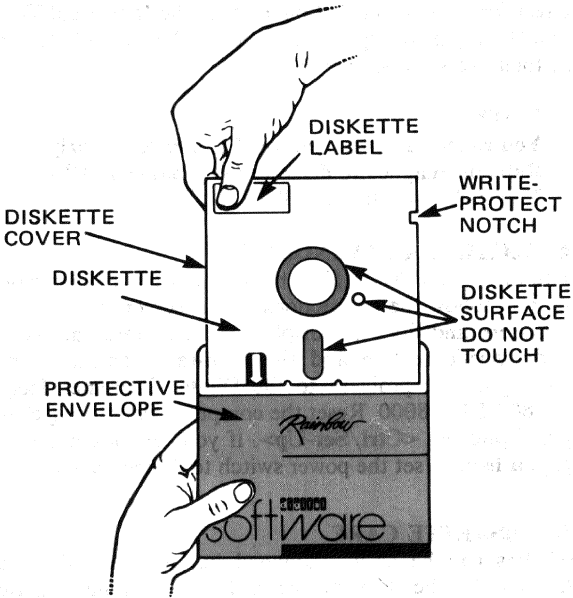

Figure 3-7 Diskette Care
- Do not touch the diskette surface through the slots shown in Figure 3-7. Skin oils can cause the drive to produce data errors.